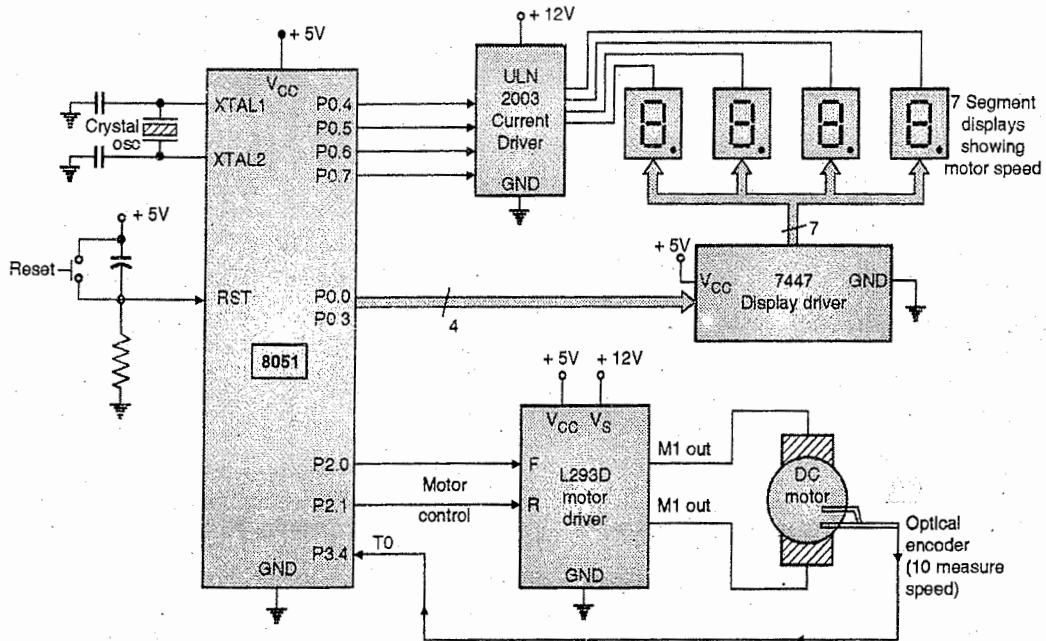

Fig. P. 3.9.3
- The interface is as shown in the Fig. P. 3.9.3.